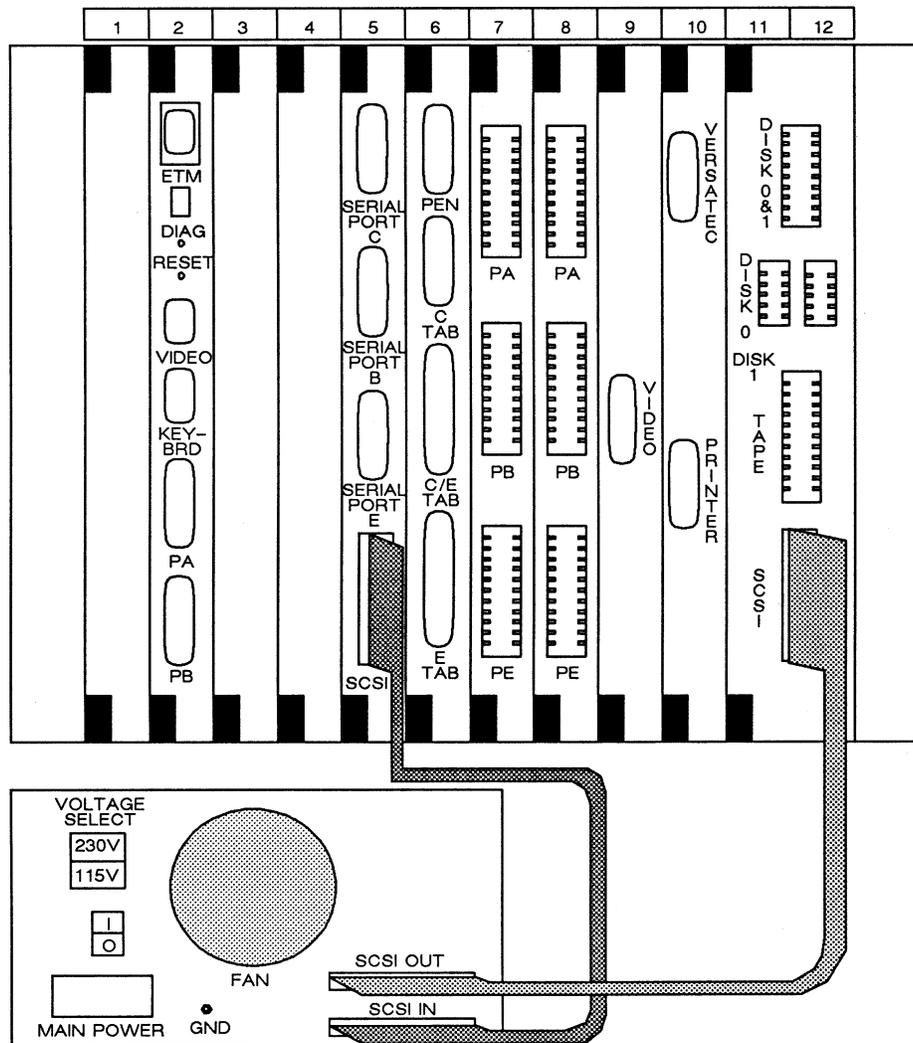

Figure 7-16. Expansion Box Connections for a Diskful CADDStation with a SCSI Board
1. Using a long round shielded cable with two male 50-pin connectors, plug one connector into the SCSI female connector on the SCSI board (slot 5). Plug the other connector into the SCSI IN female connector on the expansion box. See Figure 7-16.
Figure 7-16 shows the connections for a diskful CADDStation with a SCSI board and an expansion box.